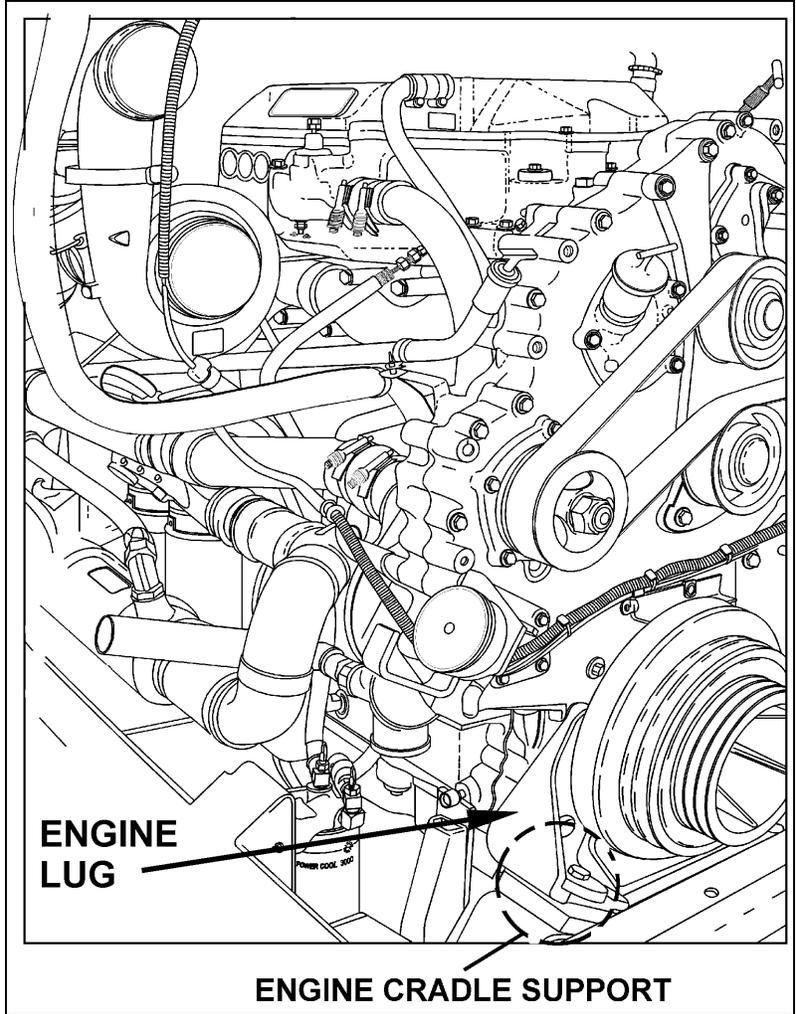

FIGURE 1
3. Using a filler gauge, measure gap at engine cradle rear supports (refer to figure 1).